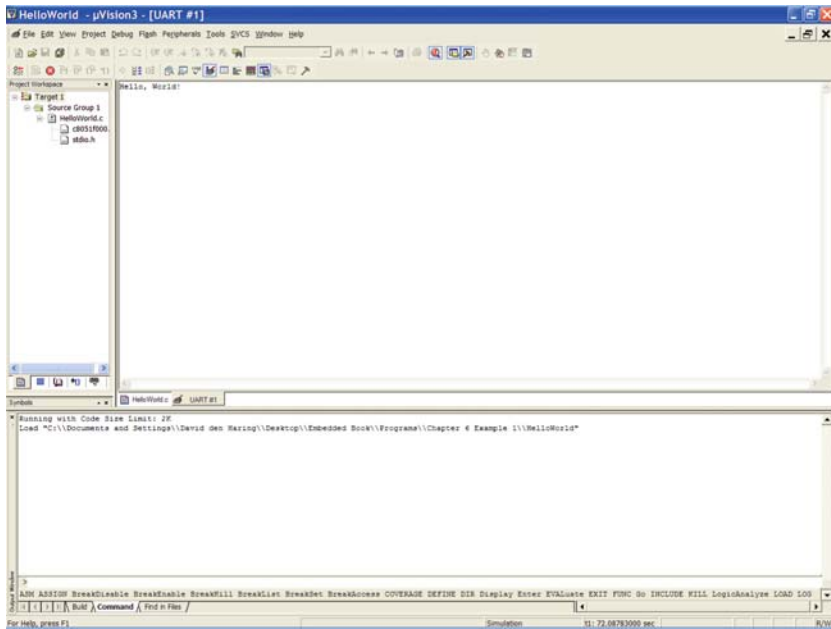

Fig. 6.10 Hello World #2 Screenshot
3. View the output of the program. Select *View* → *Serial Window* → *UART #1*. The string “Hello, World!” should be displayed in this window. See Figure 6.10 for a screenshot.